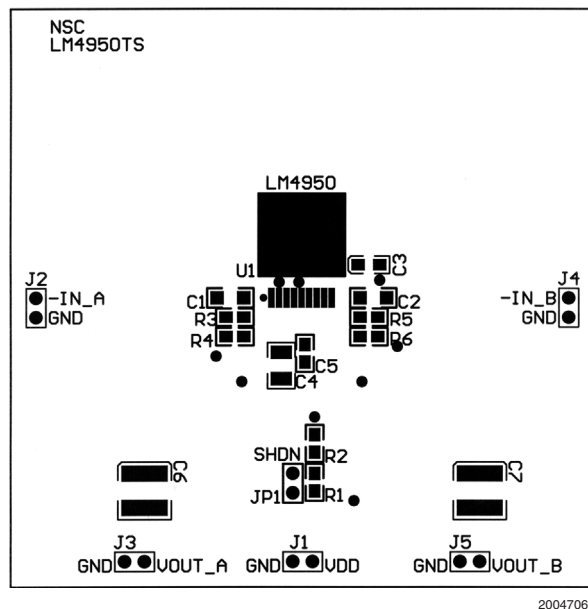

FIGURE 5. Recommended TS SE PCB Layout:
Figure 5 through Figure 7 show the recommended two-layer PC board layout that is optimized for the TO263-packaged, SE-configured LM4950 and associated external components. Figure 8 through Figure 10 show the recommended two-layer PC board layout that is optimized for the TO263-packaged, BTL-configured LM4950 and associated external components. These circuits are designed for use with an external 12V supply and 4 Ω (min)(SE) or 8 Ω (min)(BTL) speakers.